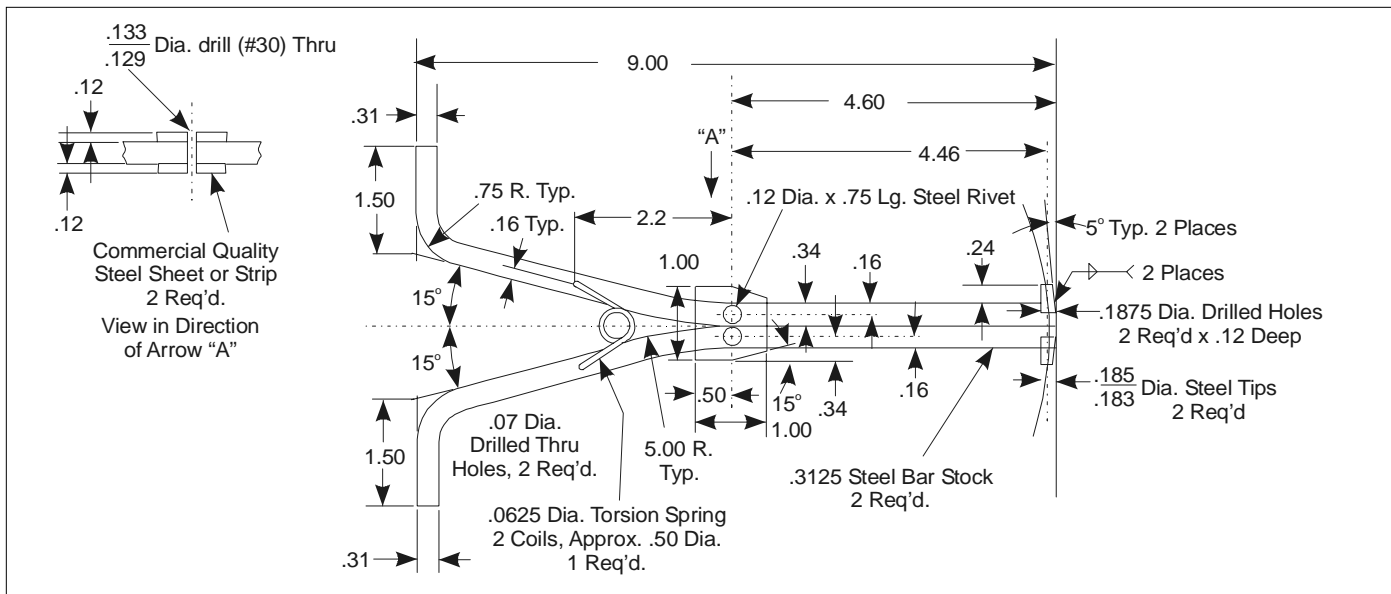

Figure 3 - Check Valve Seat Removal Tool
- 8.10 Tool for removing the Equalizing Reservoir Cut-Off Valve Check Valve Seat. Information for making this Tool is shown in Figure 3.
IMPORTANT: The information shown in Figure 3 for making this tool is furnished as a convenience. The Wabtec Corporation shall have no responsibility for tools which they do not manufacture, and will not be responsible for the results when using such tools (including claims by third parties).